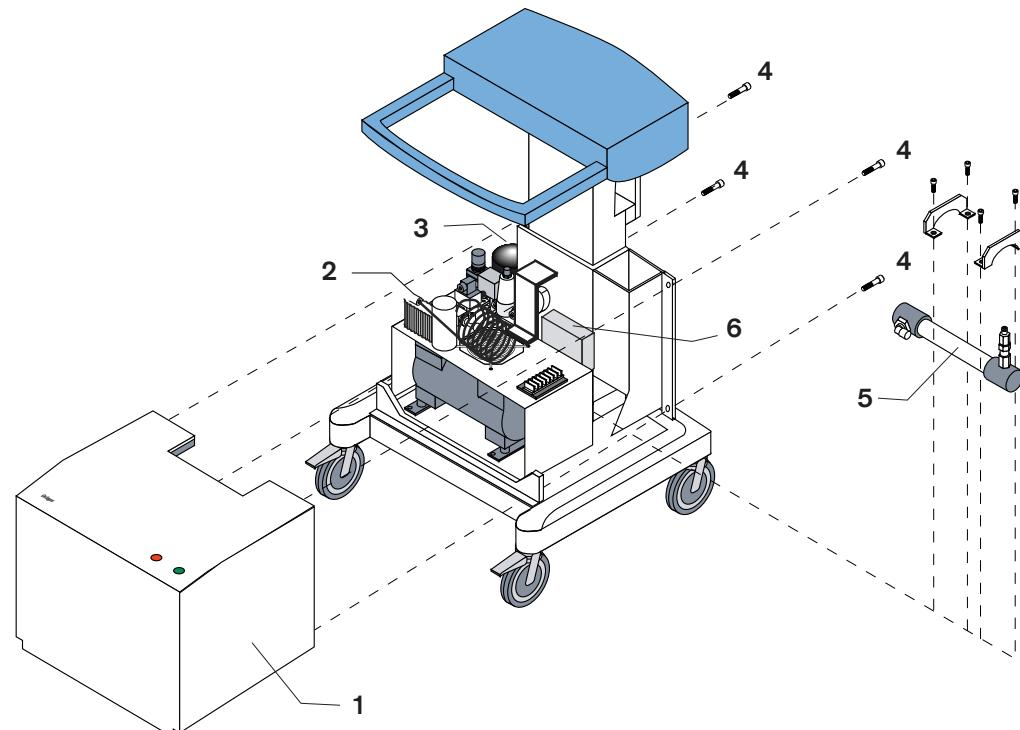

Fig. 3 Layout of the assemblies (1)
- 1 Remove the fixing screws from the cover, see Fig. 3.
- 1 Unscrew fixing screws of protective cover, for fixing screws see Fig. 3.